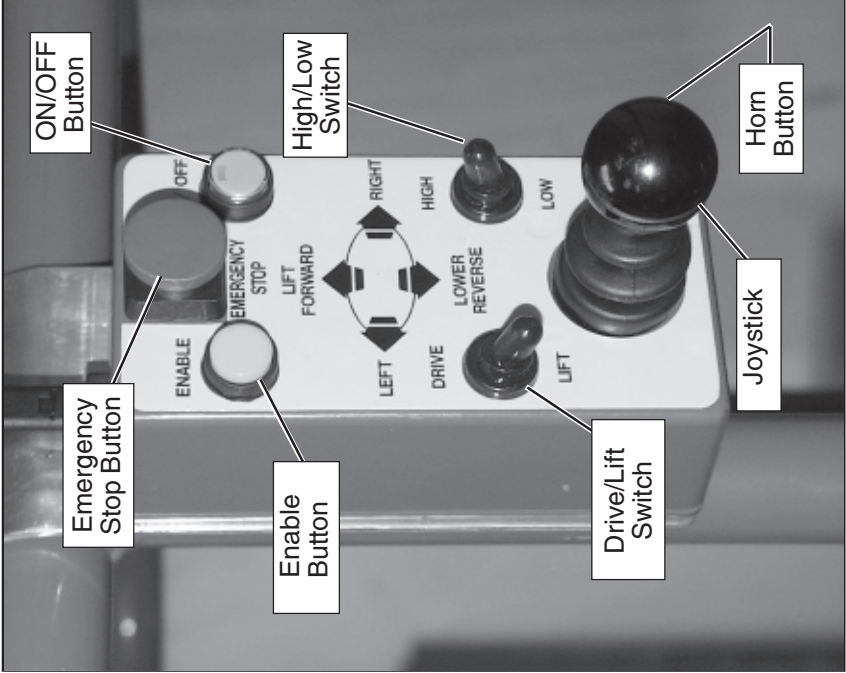

Figure 4: Platform Controls
2. Turn Key to **ON**, Key Switch is located on the left side of the mast (Figure 4).